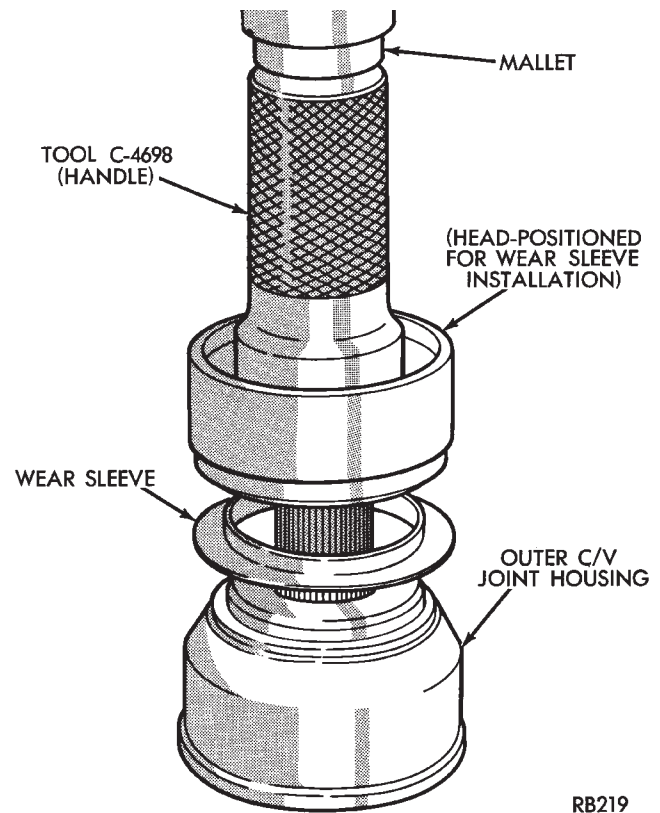
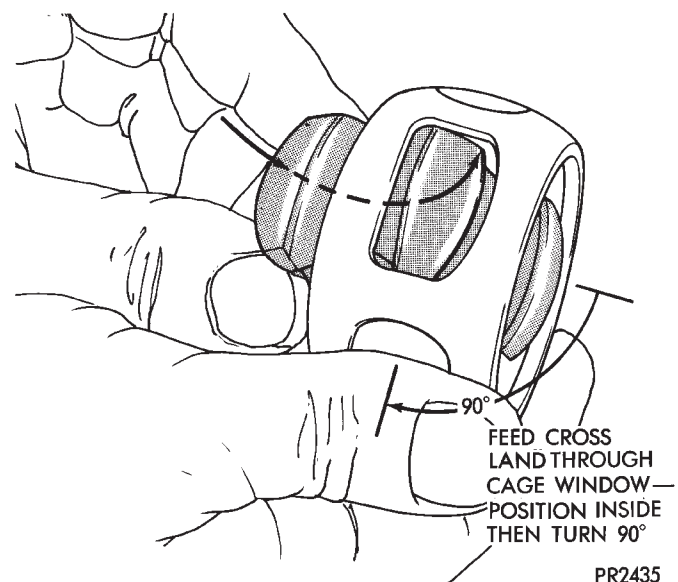
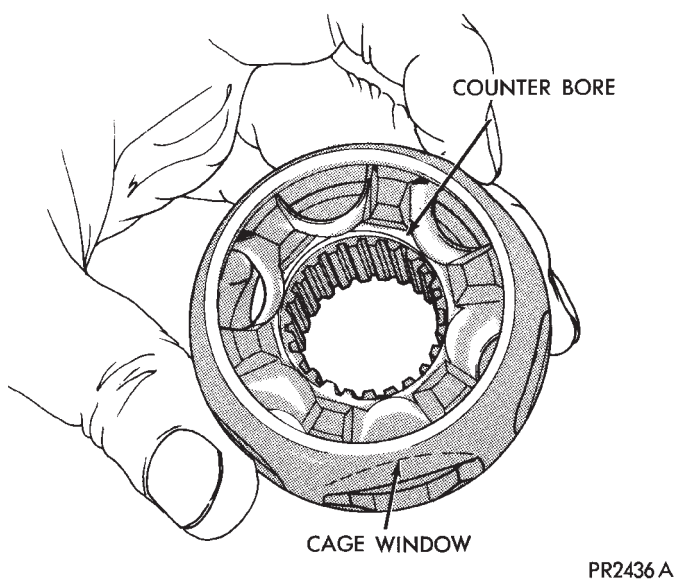
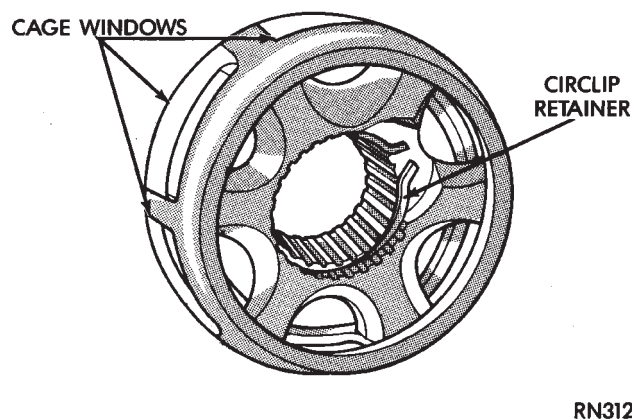

Fig. 1 Tool Set-Up for Wear Sleeve Installation
Fig. 2 Installing Cross into Cage
Fig. 3 Cage & Cross Assembled G.K.N.
Fig. 5 Cage & Cross Assembled S.S.G.
(1) Position new wear sleeve on joint housing machined ledge (Fig. 1). Assemble Installer, Special Tool C-4698 (Tool is provided with handle and dual purpose drive head for installing wear sleeve onto C/V
(2) See (Fig. 1). Assemble tool and install wear sleeve.
(3) Lightly oil all components before assembling outer joint.
(4) Align parts according to paint markings.
(5) Insert one of the inner race (cross) lands into cage window (Fig. 2) and feed race into cage. Pivot cross 90° to complete cage assembly (Fig. 3).
When properly assembled the large counterbore in the cross should be facing outward from the joint on G.K.N. units (Figs.3 and 6). On the S.S.G. joint the internal circlip in the cross will be facing outward from the housing (Fig. 5).